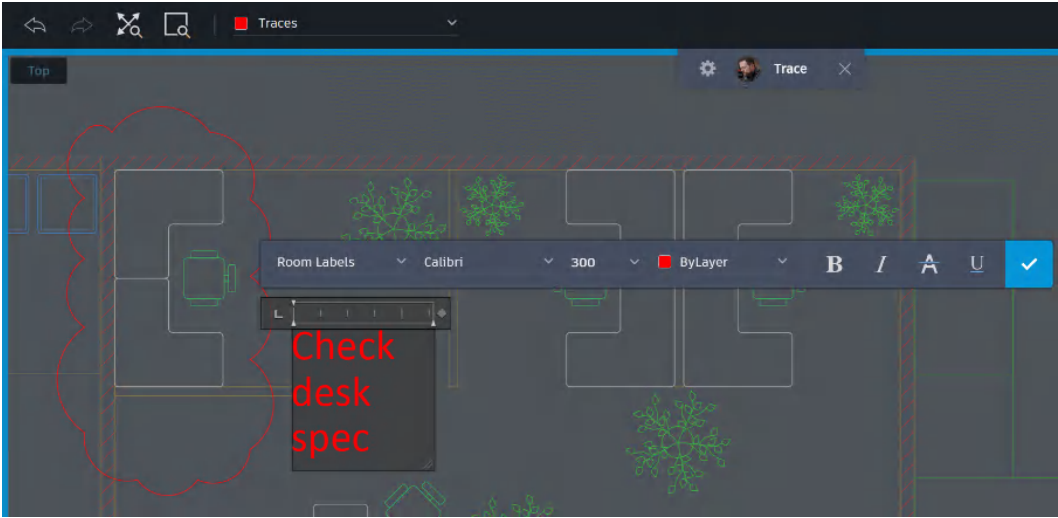

Figure 16.26: The text editor displayed in AutoCAD Web in trace mode
8. Double-click on the text in the trace, and the AutoCAD Web text editor will display, as shown in *Figure 16.26*.